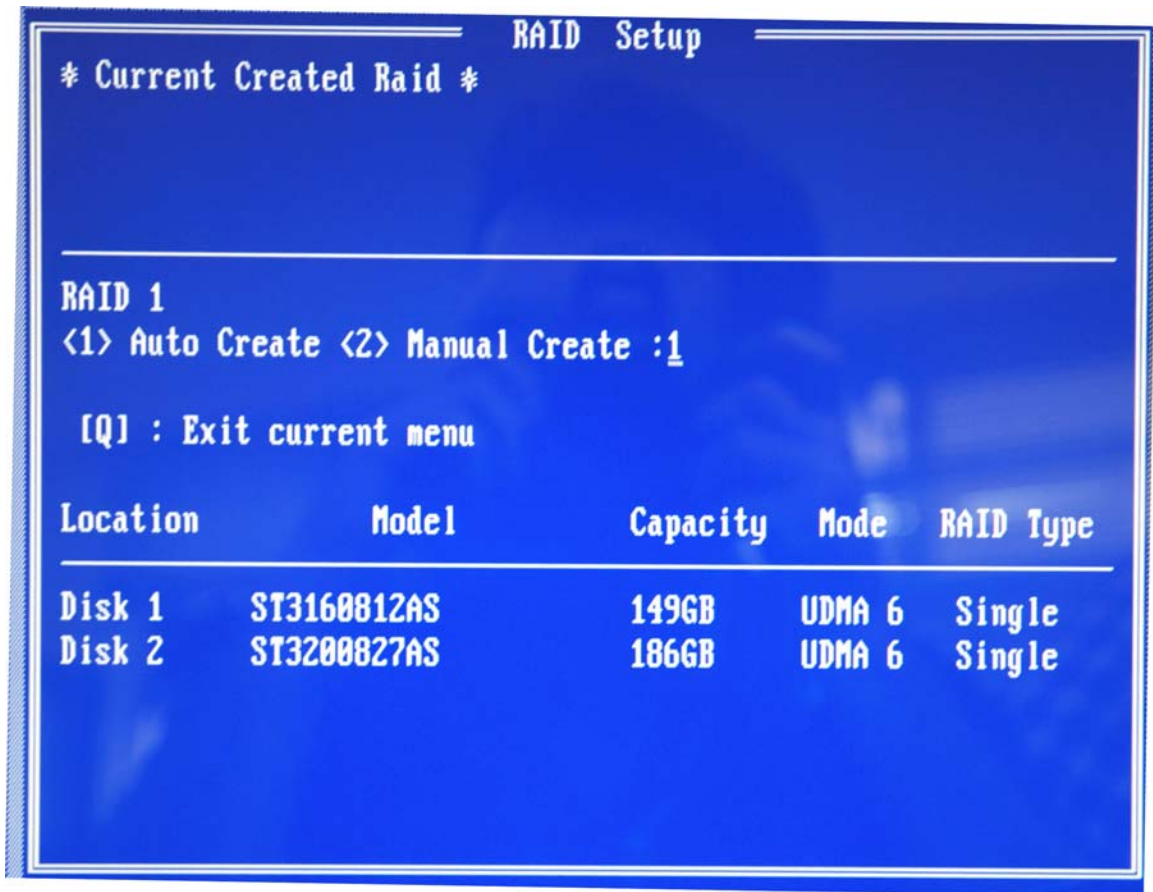

Figure E-7: Select “Auto”
Step 6: The system then prompts the user to “**Auto Create**” or “**Manual Create**” (see **Figure E-7**).